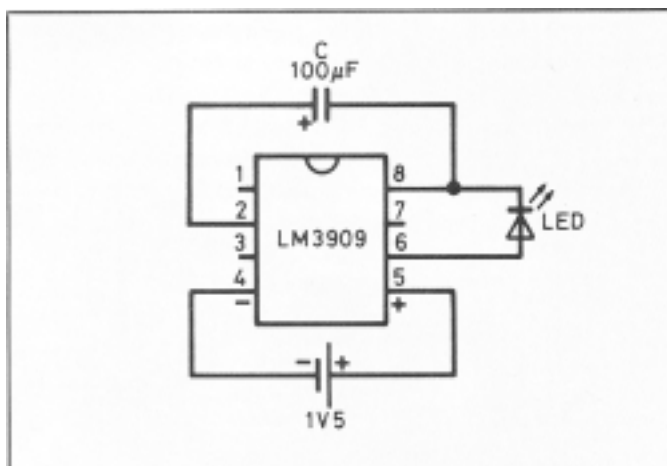

Figure 1 Circuit diagram of the LED Flasher. Pins 1, 3 and 7 of the IC are not used
The LM3909 is an integrated circuit (IC) which will flash a light-emitting diode (LED). Using only two extra components and a battery, the circuit is cheap and has a very low current drain from a 1.5 V cell. The circuit can be used as a novelty flasher, an indicator for a dummy alarm bell box, or it could be attached to a torch so that it could be found easily in the dark! The simple circuit is shown in **Figure 1**.